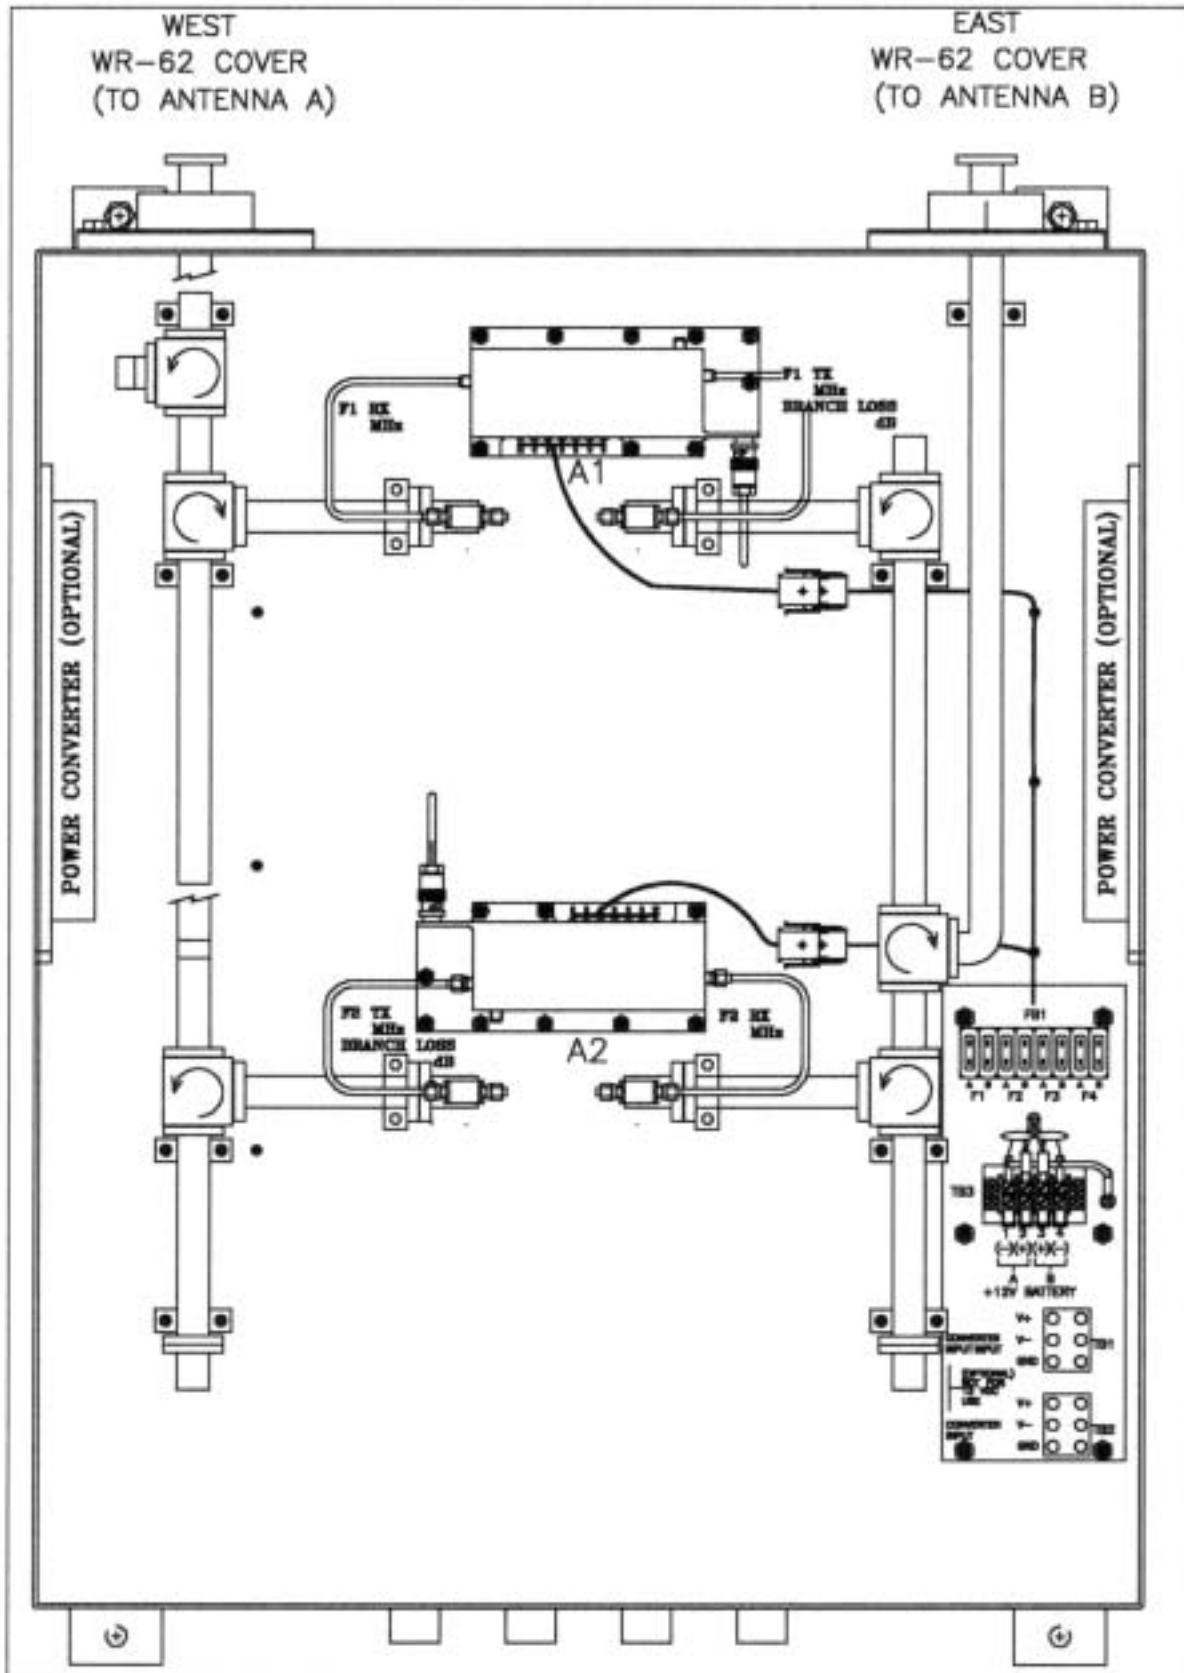

figure 1.1 Mechanical Layout (Duplex Repeater)
- The RF-13000 assembly is an RF through Repeater designed for remote locations. No tuning is required, and the use of highly reliable components and minimum active circuitry eliminates most subsequent maintenance. The Repeater assembly is contained in an aluminum, weathertight cabinet. The complete assembly may be wall-mounted, but in most applications, it is pole- or tower-mounted. See Figures 1.1 and 1.2 for front views of the Repeater in different enclosure sizes.